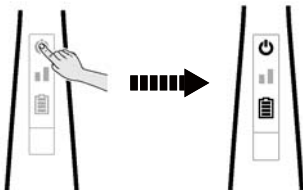

Fig.11
- Touch the power icon to illuminate control panel and initiate power. (Fig.11)